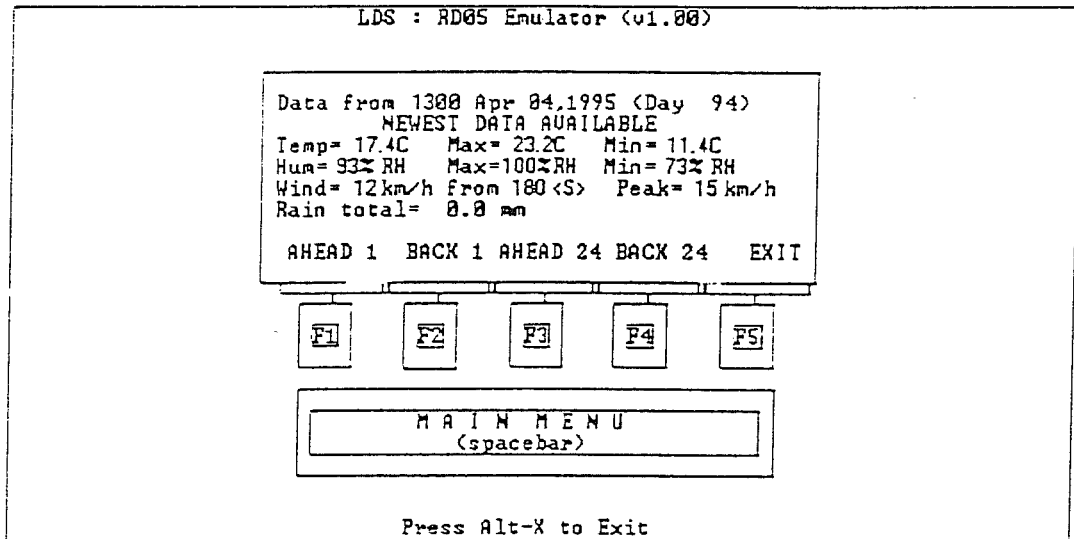

Figure 7-6
1. From the main menu, select "B: Daily Data" by pressing the F2 Function key on your keyboard. You will be presented with a summary of the data recorded at the 13:00 daily observation time (Figure 7-6). This gives you the temperature, humidity, fuel stick temperature, fuel stick moisture at 13:00 (if the sensor is installed), the maximum and minimum temperature and humidity since 13:00 of the previous day, the ten minute average of the wind speed and direction at 13:00 and the total amount and duration of rain since 13:00 of the previous day.